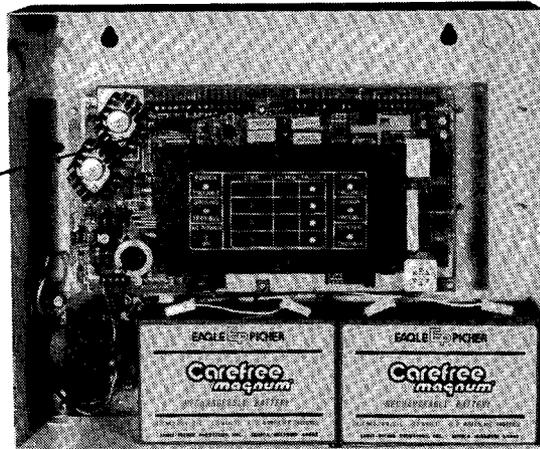

FIGURE 6
4. If any of the designated zone terminals on the panel do not have initiating devices connected to them, connect a 3.3K EOLR across those terminals (Fig. 6). (If using the transient suppressor, the zone disconnect, or combination board, see page 18.)